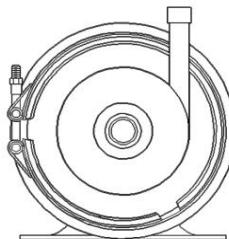

Fig 3
5. Insert key into the motor keyway. Visually determine key location in impeller sleeve. Align keyway slots on motor shaft and impeller sleeve. Slide impeller assembly over the motor shaft. Lubricate o-ring of new self-sealing bolt (item 6) with suitable, compatible lubricant. Insert self-sealing bolt into the eye of the impeller using a deep well socket. Insert a screwdriver into the motor fan to prevent motor shaft from rotating. Tighten the bolt to torque specification on page 6.
6. Place impeller housing (item 1) over back head (item 7) and o-ring (item 3) and make sure discharge is in the correct orientation (usually 12 o'clock).
7. **For AC6 pumps** - Place the v-clamp (item 2) over the impeller housing, back head, and the mounting plate (item 14). Make sure the discharge is level and in the correct orientation. **(See Figure 3)**. Tighten the nut on the v-clamp. Firmly tap the v-clamp with a mallet in several spots, and then retighten the nut.